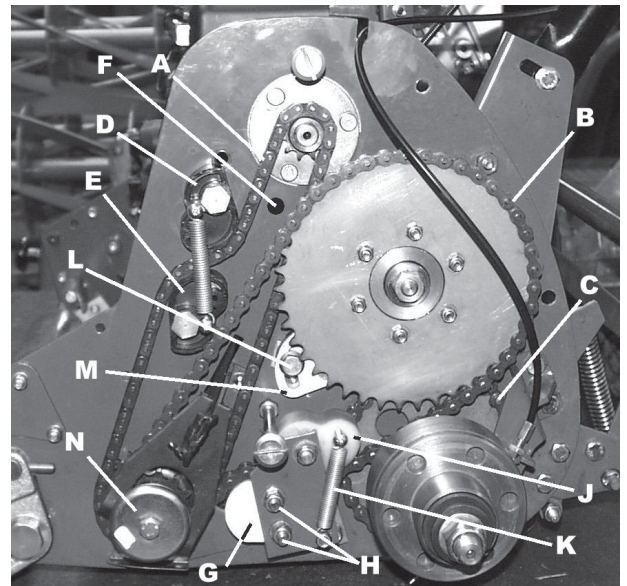

Fig. 8.10
8.10 CHAINADJUSTMENTS**(Fig. 8.10)**